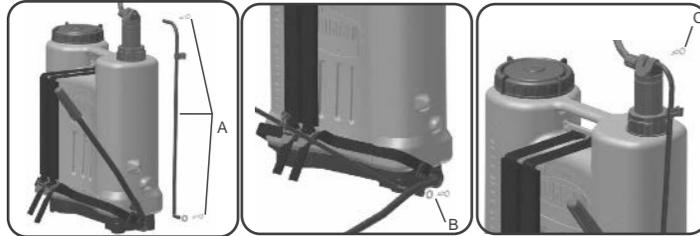

Figure 5
### PUMPING ROD ASSEMBLY (Figure 5)
**Double bushing lubrication (Figure 8):** For lubrication of the dual bushing (item 16) you should first remove the clip and then remove the upper part of the lever pump rod (Figure 5 C), unscrew the pump-securing cap (item 7) and withdraw the mixer (item 29) fixed into the pressure cylinder (item 20) inside the chemical tank (for this you must use PPE (Personal Protection Equipment) and proper gloves to avoid contamination). Remove the pressure cylinder (item 25) and coat the inner wall with grease or Vaseline to allow lubrication of the dual bushing when in operation.